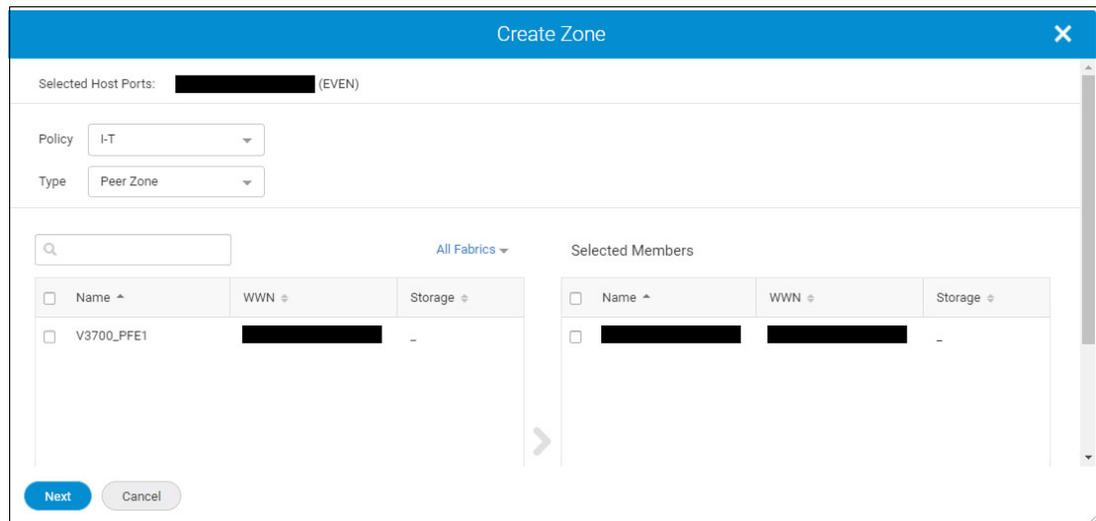

Figure 5-59 Administrators connecting new HBA ports to a fabric without launching the zoning view
5. Select storage ports from the required fabric, add them to the **Selected Members** table, and then click **Next** to name zones (Figure 5-59).